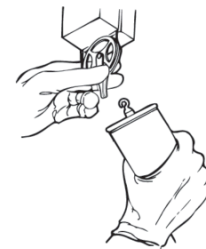

FIGURE 3
**Do not remove the styrofoam blocks** until after your clock has been operating for at least eight (8) hours. Check the weights to ensure that they are tightly assembled. Check to make sure that the cable is in the cable pulley. Hang the weights on the pulley. (See figure 3).